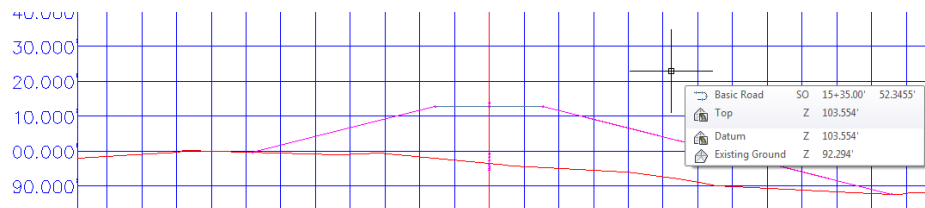

Figure 30: Updated cross-section assembly.
3. When using offsets, **the optimization engine assumes a Simple Assembly as shown in Figure 30, with two straight lanes and simple daylighting with cut slope of 2:1 and fill slope of 4:1. The lane width depends on the design speed. At low speeds, 36.0' is accounted for the top of the assembly trapezoid. At high speeds, the total width assumed is 108.0'. The optimizer does not account for pavement.** Hence, we modified the assembly and the sub-assemblies to use simple lines. (see Figure 30).